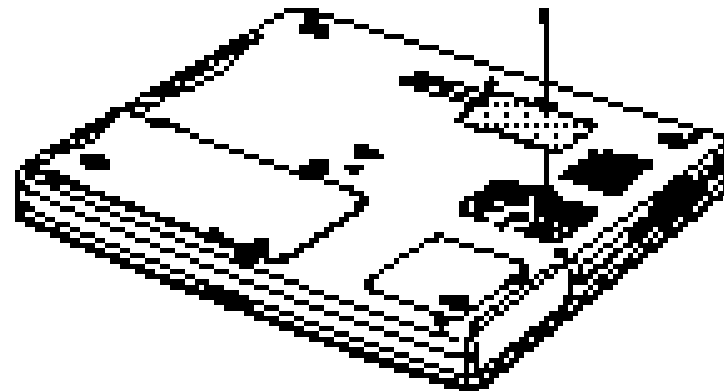

Figure 24. Installing a Memory Module
6. Push the memory module into the slot at a slight angle until the connectors are fully engaged (Figure 24).